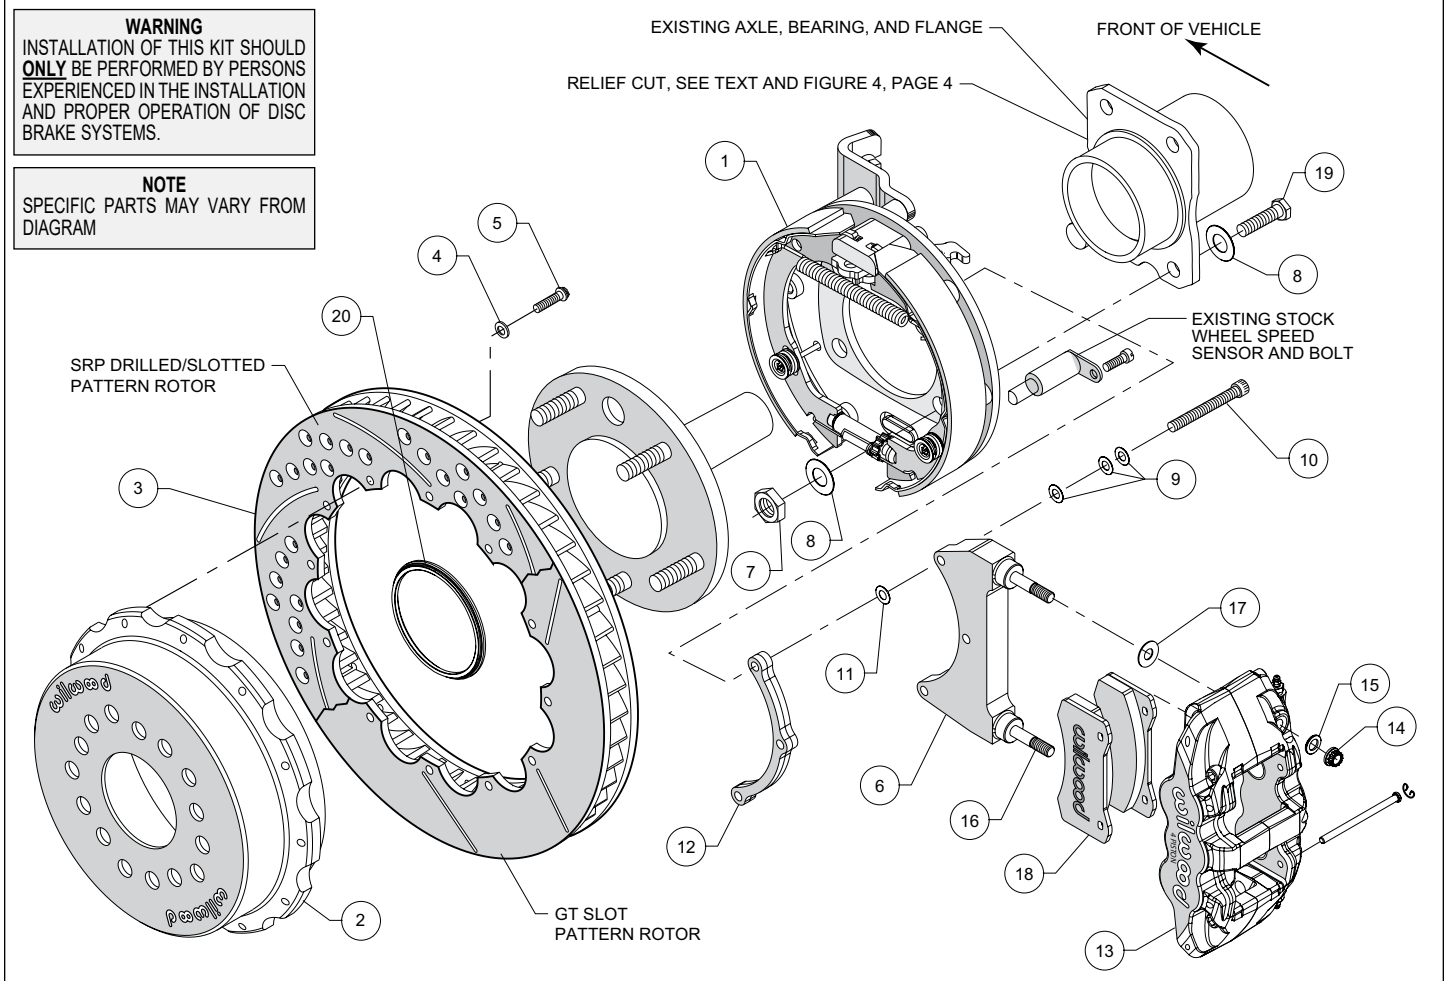
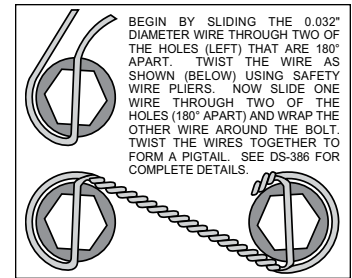

Figure 1. Typical Installation Configuration
Figure 5. Safety Wire Diagram
- Make sure this is the correct kit to fit the axle housing flange, not necessarily the rear end make. Many times after market manufacturers put a different make of axle housing flange on the stock rear end housing (see Figure 5). Example; Big Ford rear ends with Olds-Pontiac flanges, therefore, an Olds-Pontiac rear disc brake kit would be the correct kit to order. Also, shock clearance may be a problem. They may have to be modified and/or relocated to clear the Wilwood kit after final assembly.
- With the larger I.D. side of the rotor (3) facing away from the hat (2), bolt rotor (3) to hat (2) through the backside of the rotor using washers (4) and bolts (5). Apply red *Loctite*® 271 to the bolt threads and torque to 155 **in-lb** using a criss-cross pattern. For an added measure of security, the bolts may be safety wired using standard 0.032 inch diameter stainless steel safety wire as shown in Figure 5. Please refer to Wilwood's data sheet DS-386 (available at www.wilwood.com/Pdf/DataSheets/ds386.pdf) for complete safety wire installation instructions.
- Slide the rotor registration adapter (20) onto the axle register on the axle flange with the smaller O.D. facing toward the rotor/hat (2). Align the correct hole pattern in the hat with the stud pattern on the axle flange. **NOTE:** *Some OEM and aftermarket axles come with stud sizes larger than 0.50" diameter.* Verify stud size and have a qualified machine shop drill the hats to the correct size, if necessary. Slide the hat/rotor assembly (2 and 3) over the wheel studs covering the bracket kit assembly (1) and against the axle flange face. Check to be sure the hat seats squarely against the hub. Install three lug nuts (finger tighten) to keep the rotor/hat assembly in place while continuing with the installation.
- NOTE:** *Please reference the caution statement at the beginning of the assembly instructions.* The caliper mounting bracket assembly (6) should be installed first with clean, dry threads on the mounting bolts (10). Install the bracket from the rear side of the bracket kit assembly (1) by sliding bolt (10) through three flat washers (9), bracket (6), shim washer (11) and finally through the spacer (12), see Figure 1. **NOTE:** *End of bolt should not exceed inside face of insert. The bracket must tighten squarely against the back side of the bracket kit assembly (1).* Inspect for interference from casting irregularities, machining ridges, burrs, etc. Use one thin shim (11) between the bracket (6) and spacer (12) during initial trial fitting.
- Lubricate caliper mounting studs and nuts with lightweight oil. Install one washer (17) over each pre-installed stud (16) on the radial mount bracket (6). Slide the caliper (13) in place over the studs and rotor, then install the washer (15) and lock nut (14) to hold the caliper in place. The caliper bleed screws should be pointing up. Snug the lock nuts (14) and check that the rotor (3) is centered in the caliper (13). Add or subtract .015" shims (11) as necessary between the caliper mounting bracket (6) and the spacer (12) to center the caliper (13).
- Remove the two pad retaining pins from the caliper (13) by carefully popping out the pin retaining clips and sliding out the pins. Insert the brake pads (18) into the caliper from the bottom, Figure 1. With the friction material facing the rotor, secure the brake pads in place with the pad retaining pins and clips. Reinstall the caliper onto the caliper mounting bracket and temporarily tighten the lock nuts. Check that the top of the brake pad is flush with the outside diameter of the rotor. If not, adjust by adding or subtracting shims (17) between the caliper and the bracket.
- Adjust the parking brake shoes outward (using a drum shoe adjustment tool available at your local auto parts store) while spinning the hat (2) until a slight drag is felt against the hat/drum. Remove the lug nuts that were holding the hat/rotor in place. Install the wheel and lug nuts. Check to see that the wheel rotates freely without interference.
- Once all clearances have been checked, remove the wheel, caliper, hat/rotor from the bracket kit assembly (1). Secure the caliper mounting bracket (6) to the bracket kit assembly (1) using red *Loctite*® 271. Torque bolts (10) to 180 **in-lb**. Reinstall the hat/rotor assembly and again use lug nuts to hold it in place. Reinstall the caliper, torque the caliper nuts (14) to 47 ft-lb.
- NOTE:** *Clevis and cable kits which attach to the parking brake assembly are not included in the Wilwood parking brake kit.* Wilwood offers a parking brake cable kit, P/N 330-11221 for 2005-2010 and P/N 330-12335 for 2011-present which can be ordered separately from your local Wilwood dealer or by calling Wilwood customer service at (805) 388-1188.